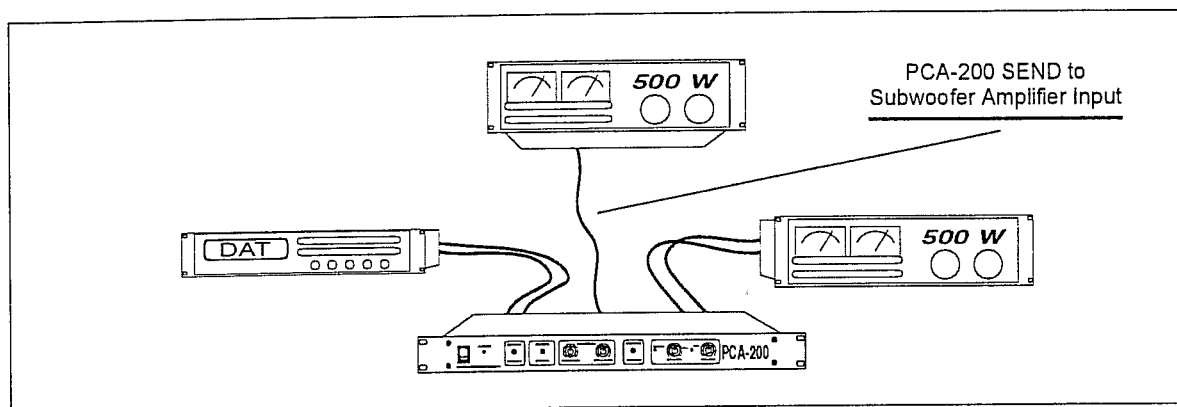

Figure 3-3: Using the PROCESS LOOP SEND to a Subwoofer
**Subwoofer / Direct Out** The **PROCESS LOOP SEND/SUBWOOFER** output can also be used as a bass synthesis direct out, as shown in Figure 3-3. Synthesized bass is available at the **PROCESS LOOP SEND** jack regardless of the position of the **PROCESS LOOP** switch. The **SUBWOOFER** jack can be used as an output when the PCA-200 is in the send/return loop of a mixer or preamp. Using the PCA-200 in a send/return loop is discussed a few paragraphs below.